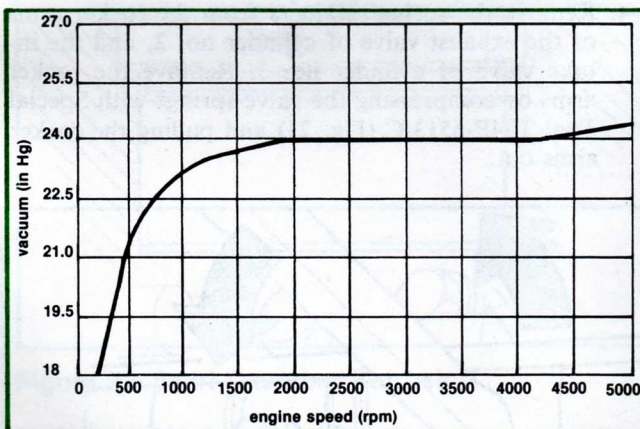

Figure 16. Maximum Vacuum vs. Engine Speed
**NOTE:** Actual vacuum pump output is limited and does not necessarily increase with RPM (Fig. 16). Extremely large amounts of vacuum, such as those that could be produced at high rpm are not necessary so total pump output is kept at about 24 in Hg (81 kPa).